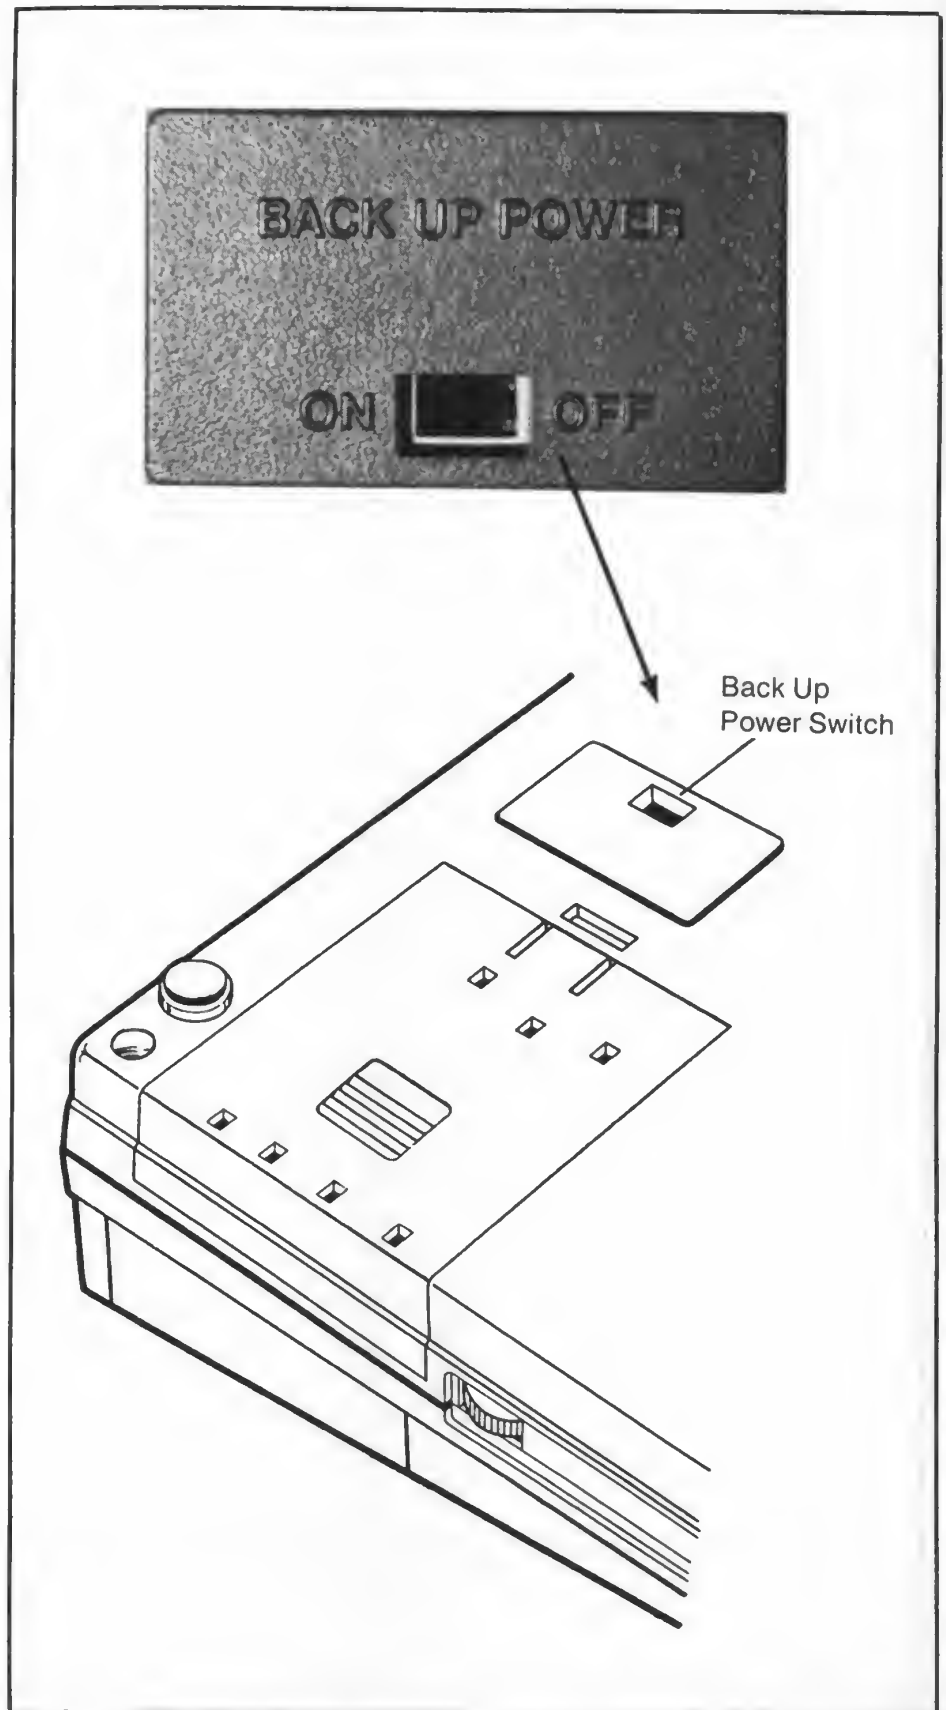

Fig. 1-2 The "Back-Up Power" Switch
2. Switch the **Back Up Power** switch (located underneath the unit) to ON (Figure 1-2).